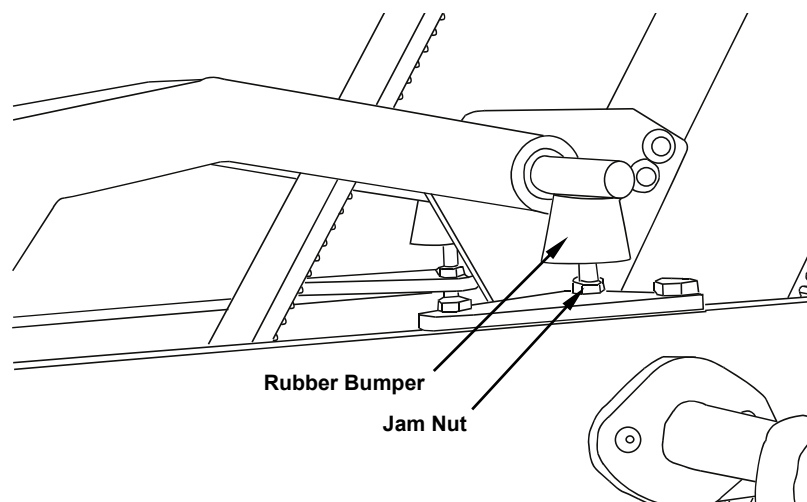

Figure 2-14
3. Adjust this clearance by adjusting the height of the rubber bumpers (see Figure 2-14). Following adjustment, tighten the jam nuts.